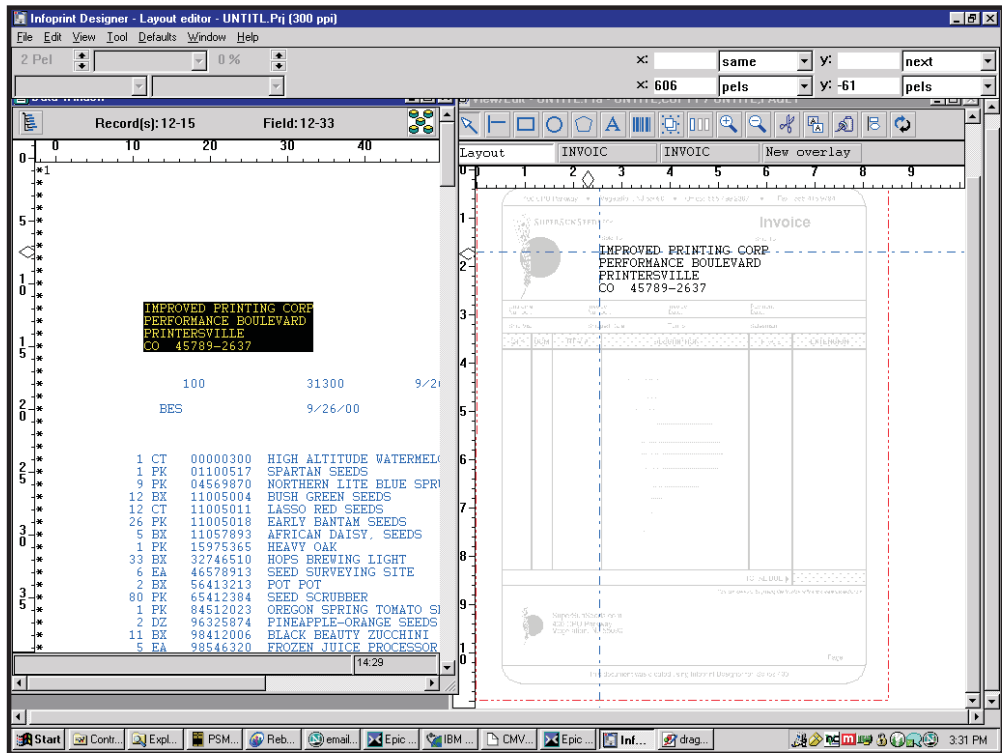

Figure 129. Positioning Text in the View/Edit Window
11. To begin mapping data, hold down the left mouse button and select the entire address block. Right-click (and hold down) anywhere inside the selected block and drag the text over to the **View/Edit** window until you have the address positioned at X = 2.5 in. (or 600 pels), Y = -.25 in. (or -60 pels). Figure 129 on page 210 shows the data being positioned in the **View/Edit** window. You can see the X and Y coordinates at the top, right-hand corner of the screen.